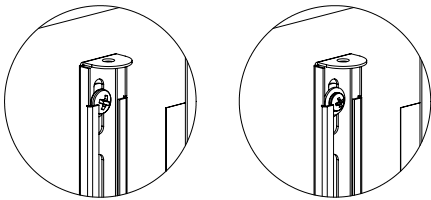

Figure 8 - LEFT: M8 - RIGHT: M6 with washer
3. If your display takes size M6 screws, use the M6x12mm screws to mount the brackets. If your display takes size M8, use the M8x16mm screws. When using the M6, you must also use the metal washer (figure 8).